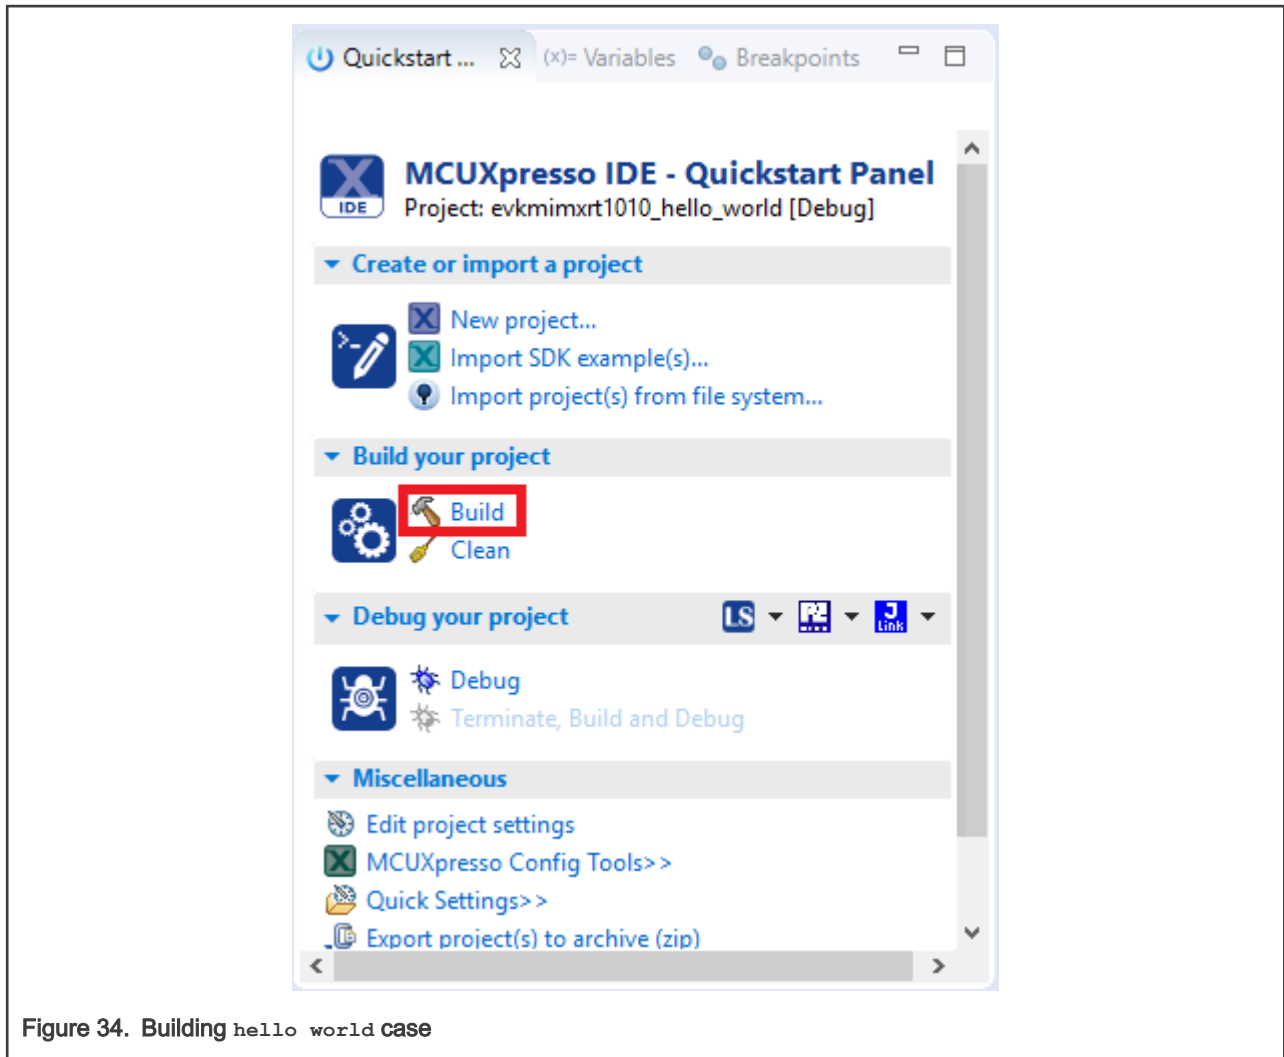

Figure 34. Building hello world case
- On the **Quickstart** panel, click **build evkmimxrt1010\_demo\_apps\_hello\_world [Debug]** , as shown in Figure 34.